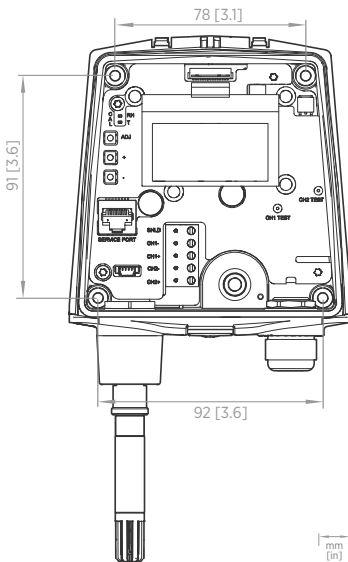

Figure 3 Wall mounting measurements
2. Make sure that the transmitter is correctly aligned and attach it directly to the wall with up to four screws (not included in the package). Figure 3 \(page 15\) shows the distances between attachment points.